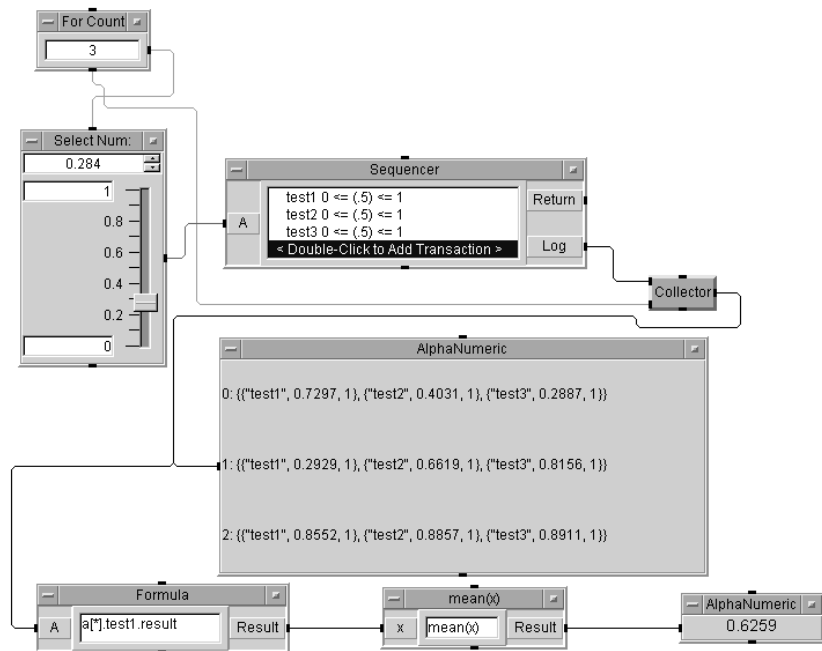

Figure 217 Analyzing Several Runs of Sequencer Data
- 5 Run the program. It should look like Figure 217.